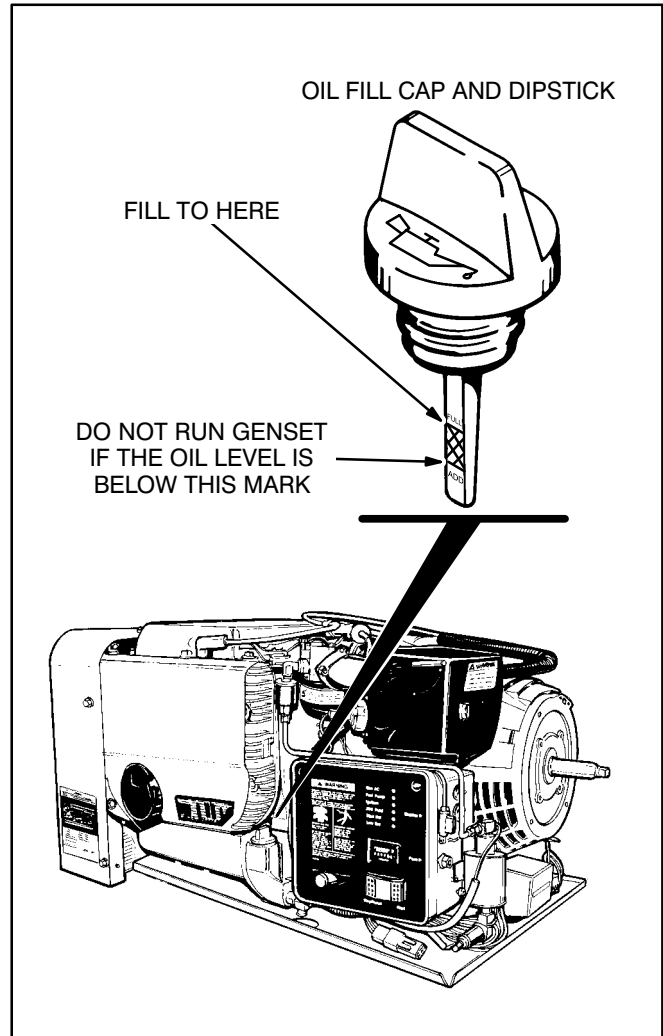

FIGURE 11. OIL LEVEL CHECK
1. Remove the oil fill cap/dipstick (Figure 11) and wipe it clean.
2. Remove the oil fill cap (Figure 11).